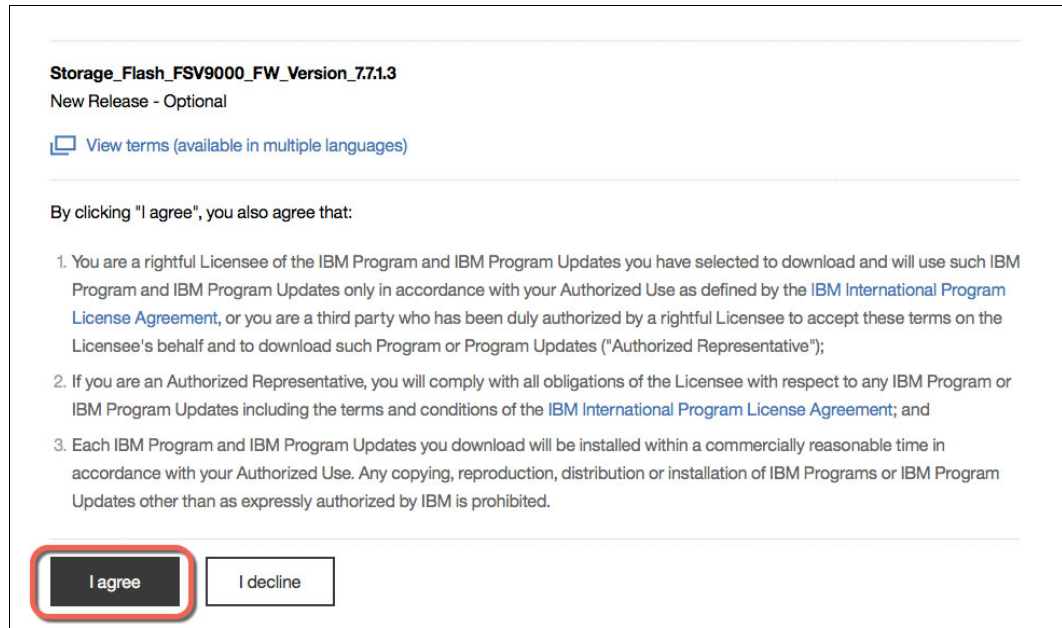

Figure 13-45 Support Portal agreement example
- The license agreement is presented. At this time entitlement is confirmed through the acceptance of this agreement shown in Figure 13-45 on page 654.